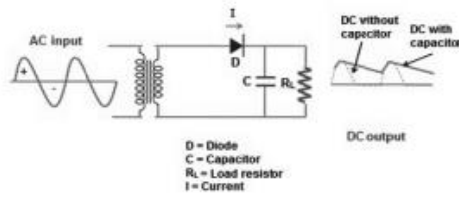

Figure 1: Half wave rectifier with capacitor filter
1. Connect the Electronic circuit for half wave rectifier on bread board as shown in Figure 1.